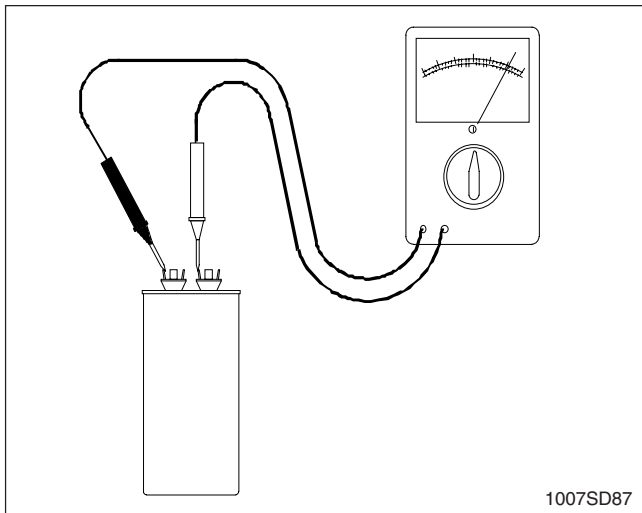

Figure 4-4. Testing Capacitor
2. Check the capacitor charge and discharge readings using an ohmmeter as described below or use a capacitor checker. See Figure 4-4.